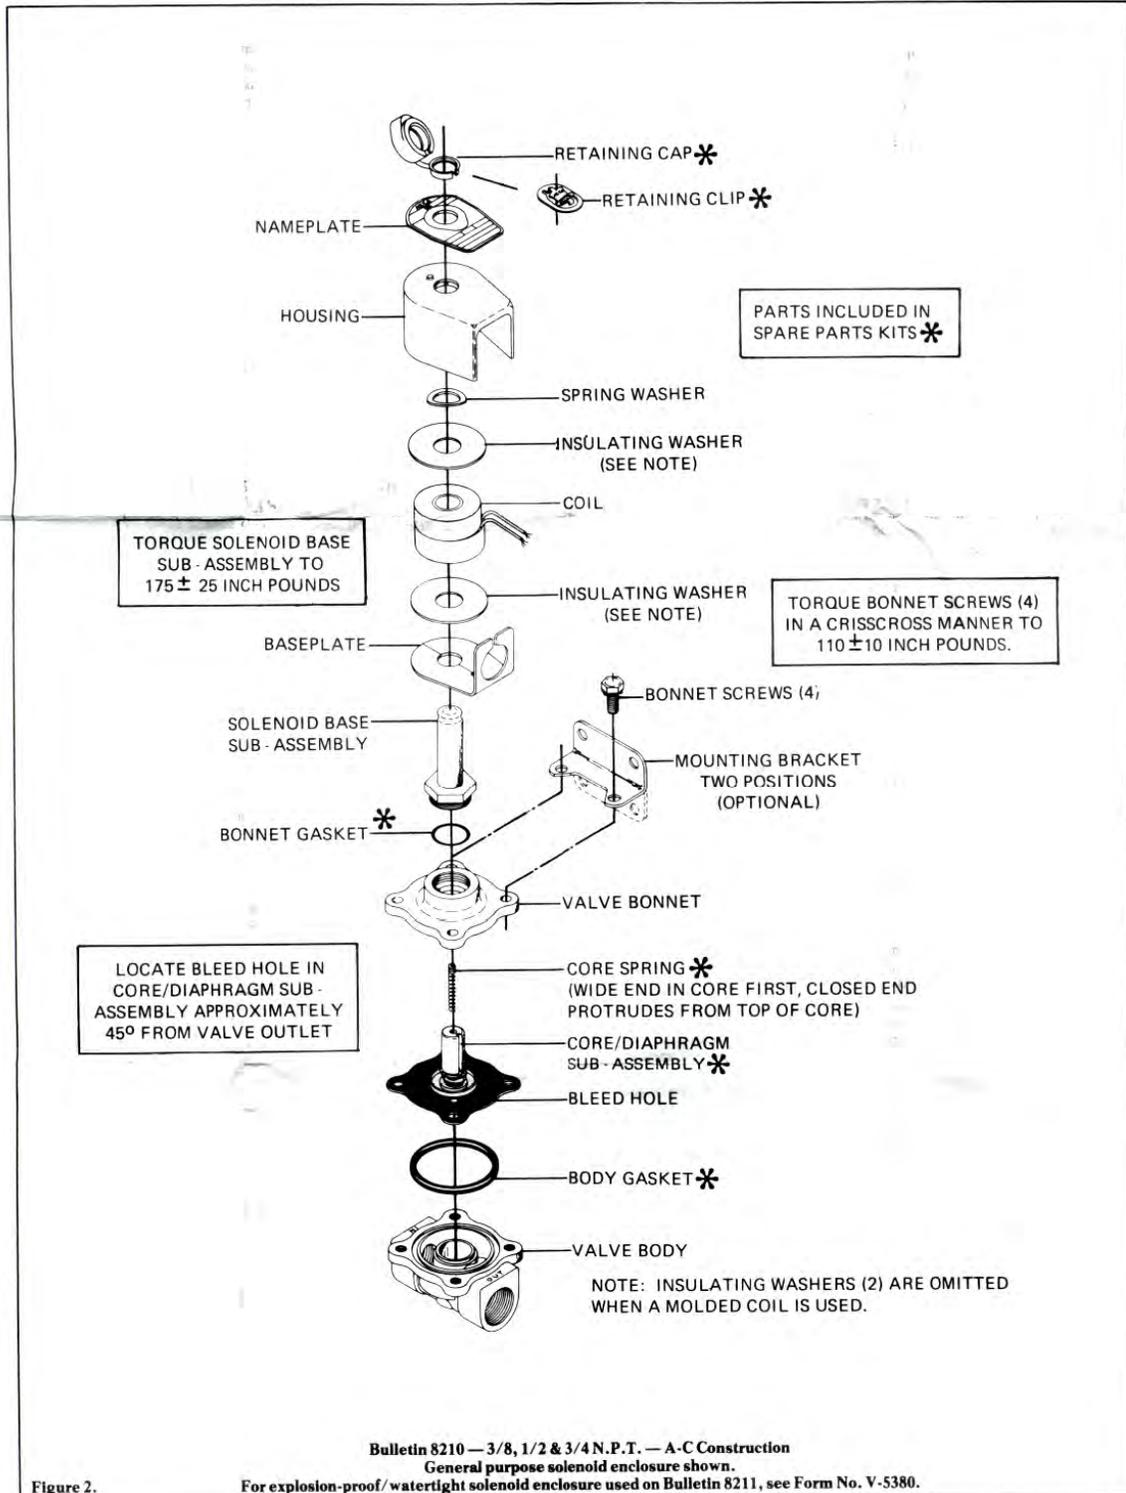

Figure 2.
**VALVE DISASSEMBLY** (Refer to Figures 2 and 3)
1. Disassemble valve in an orderly fashion using exploded views for identification and placement of parts. Refer to Figure 2 for AC construction; Figure 3 for DC construction.